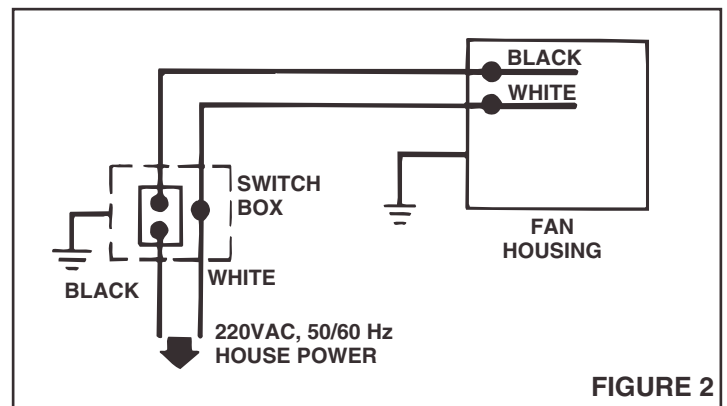

FIGURE 2
- Refer to Figure 2.** Run power leads from the wall switch, timer switch or speed control switch to the unit.